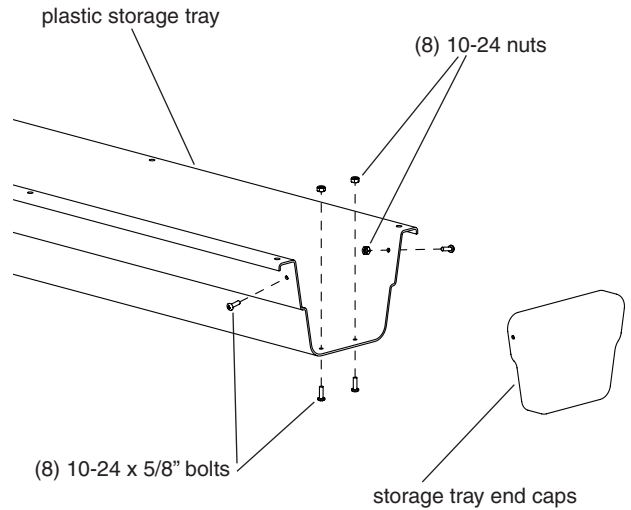

FIGURE 3B (left side shown)
8. Attach (2) storage tray end caps (68156) to each end of the storage tray (68158) using (8) provided 10-24 x 5/8" bolts, nyloc nuts and (16) 3/16" washers. **SEE FIGURE 3B.**